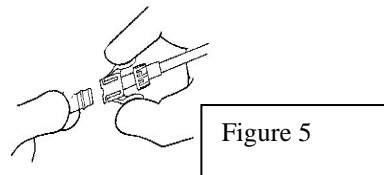

Figure 5
- With one hand, hold your catheter by the hub and with your other hand squeeze the “wings” of the locking blunt cannula together and insert it into the cap of your catheter (figure 5).